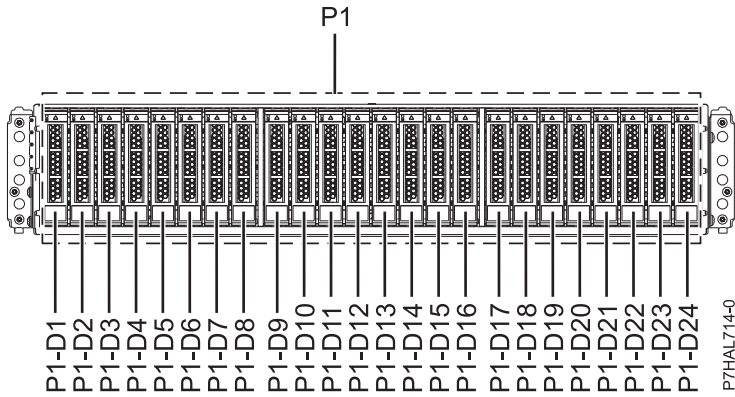
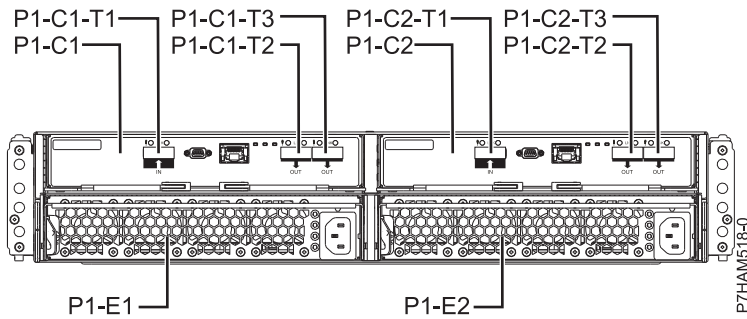

Figure 26. Front view of the 5887 disk drive enclosure showing the disk drive locations
Figure 27. Rear view of the 5887 disk drive enclosure
3. Identify the part and the enclosure that you want to service. The disk drive and SSD slots are located in the front of the enclosure. Figure 26 on page 27 and Figure 27 on page 27 show the front view and rear view of the 5887 disk drive enclosure and the disk drive locations in the 5887 disk drive enclosure.